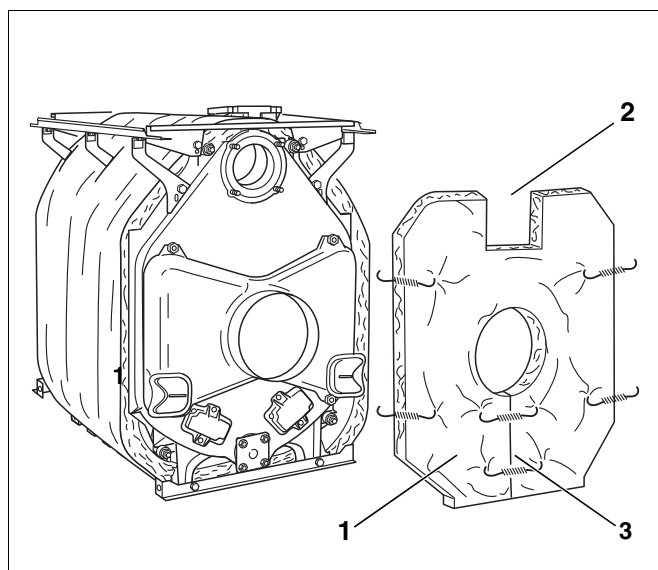

Fig. 46 Fitting the thermal insulation for the rear section
- Push the thermal insulation for the rear section (Fig. 46, [1]) onto the flue outlet. The cut-out for the boiler return must (Fig. 46, [2]) point upwards.
- Close the slit below the flue outlet with a tensioning spring. (Fig. 46, [3]).